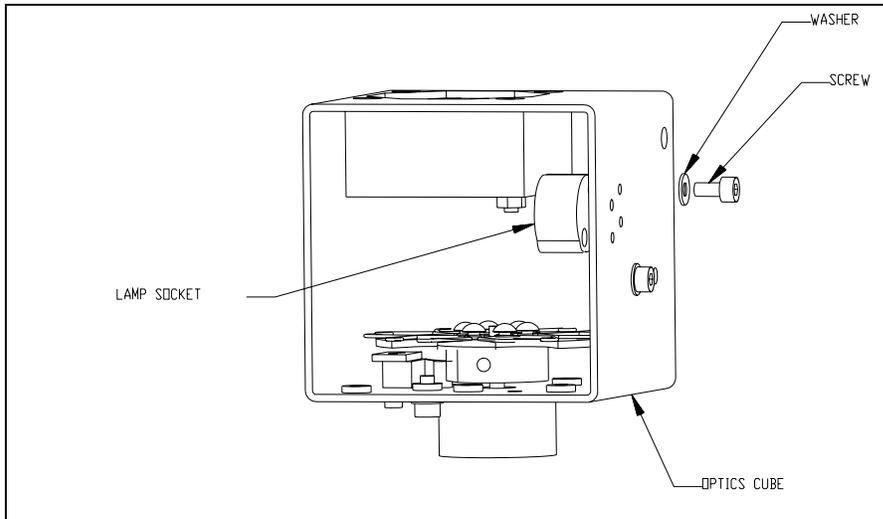

Figure 11-27 Remove the Lamp Holder
- 1 Remove the 2 M3 x 6mm socket head screws and M3 lock washers (Figure 11-27).